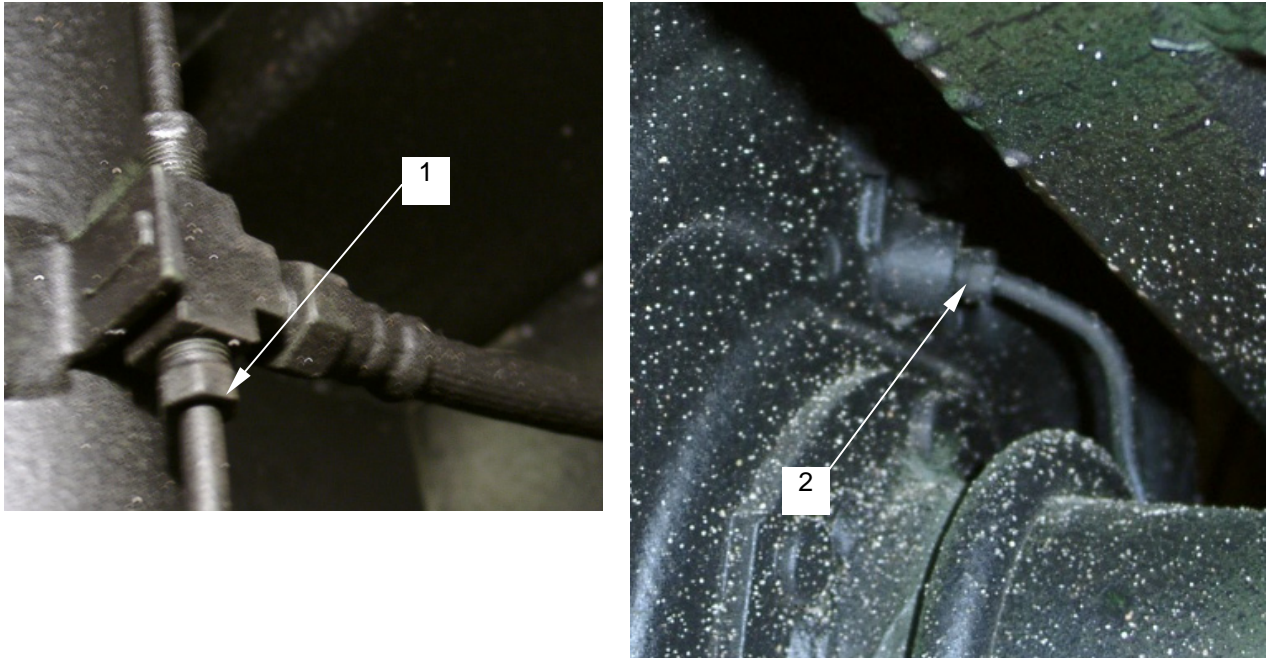

Figure 45. Hard Line, Tee To Wheel
- a. Loosen and remove hard line from tee (**figure 45, item 1**).
- b. Loosen and remove hard line to tire (**figure 45, item 2**).
- d. Connect hard line to tee (**figure 45, item 1**).
- e. Connect hard line to tire (**figure 45, item 2**).